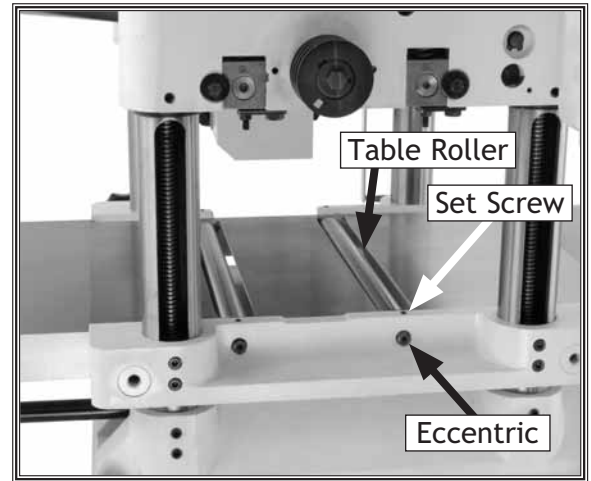

Figure 4. Table roller adjustment locations.
2. Loosen the table-roller set screws and turn the eccentrics until the table rollers fall below the table surface. Refer to **Figure 4** for locations.